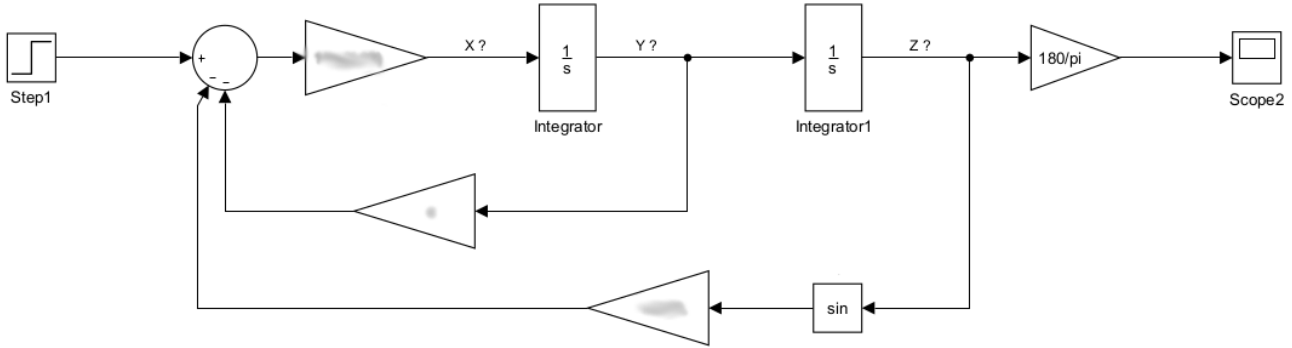

Figure 4
Hint: A partially constructed model of the PLA where some blocks are not shown is demonstrated in Fig. 4.
- (b) What do X, Y and Z signals in Fig. 4 stand for in the real system?